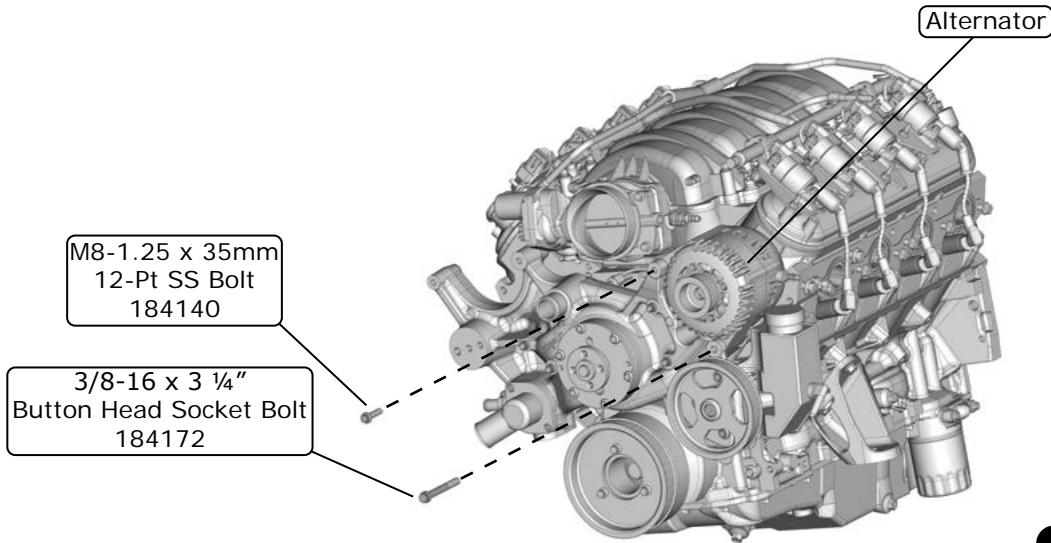

Figure 3
6. For system **without power steering**, secure lower alternator boss with 3/8-16 x 3 1/4" button head SS bolt torqued to 15 lb-ft (See Figure 3, below).